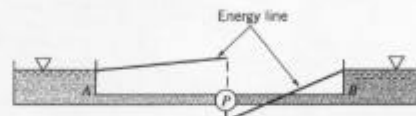

Figure 1
5. (15%) Water is pumped between two tanks as shown in Fig. 1. The energy line is as indicated. Is the fluid being pumped from A to B or B to A? Explain. Which pipe has the larger diameter: A to the pump or B to the pump? Explain.